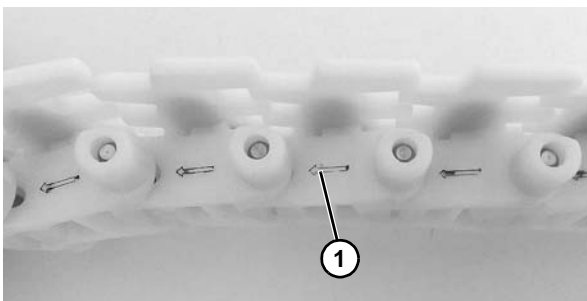

Figure 54
1. Insert the chain (**Figure 53, item 1**) into the underside of the drive unit (**Figure 53, item 2**). Make sure the chain will be moving in the correct direction, as indicated by the arrow (**Figure 54, item 1**) located at the side of all chain links.